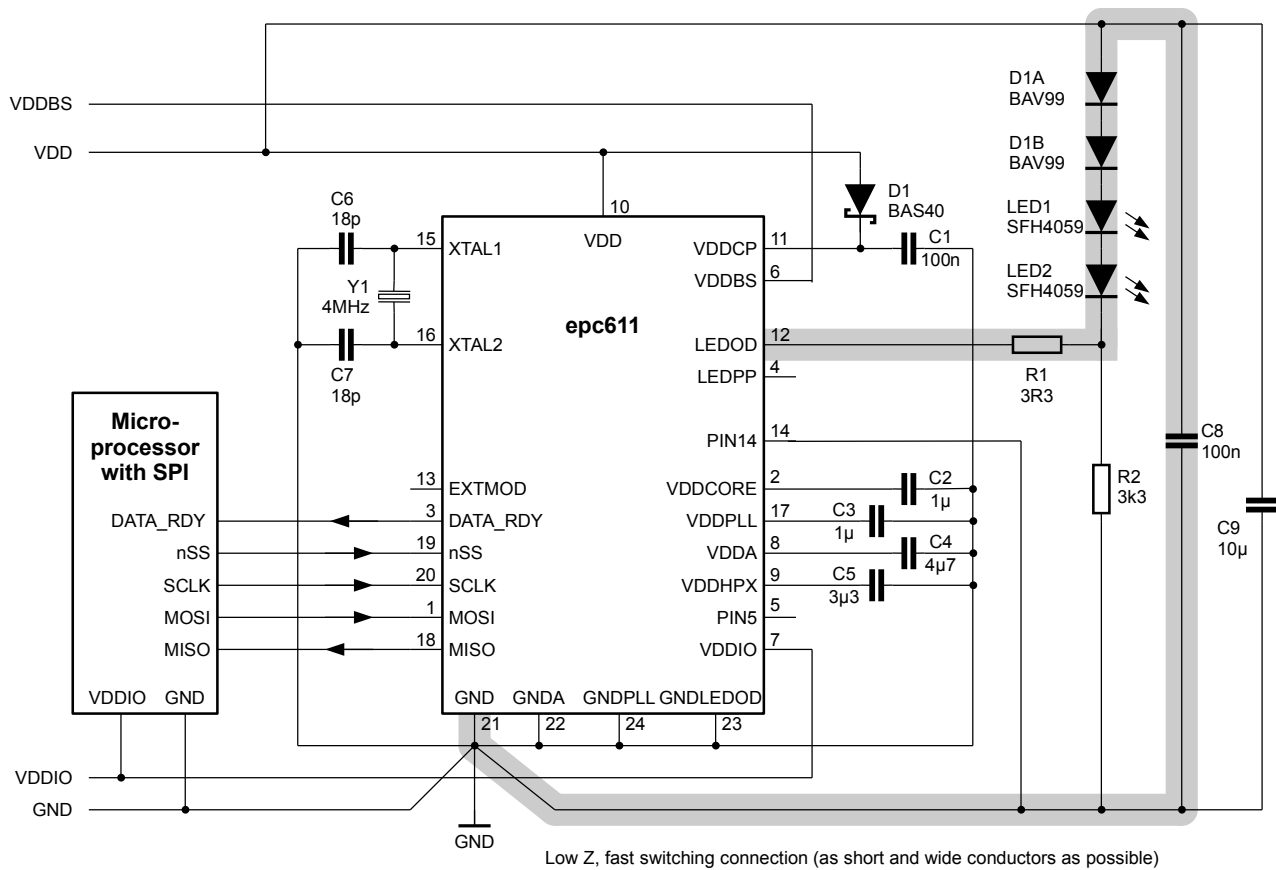

Figure 13: Typical application diagram
Table 11: Values of the components related to epc611 chip (Figure 13)
15. Pins not listed here or explained later have to be connected according to Figure 13.
1. XTAL1 and XTAL2 are the input/output pins of the internal oscillator. They can be used either with a 4.0 MHz crystal or resonator. The capacitor values C6 and C7 should follow the recommendation in the datasheet of the crystal or resonator (refer to Figure 13).
LEDOD is an open-drain nMOS FET driver output. This allows direct drive of illumination sources e.g. LD or LED. When the LED driver is active (ON), the LED current flows through the resistor R1 into the LEDOD pin, through the on-chip driver and comes out of the chip on the VSSLED ground pin (Figure 13).